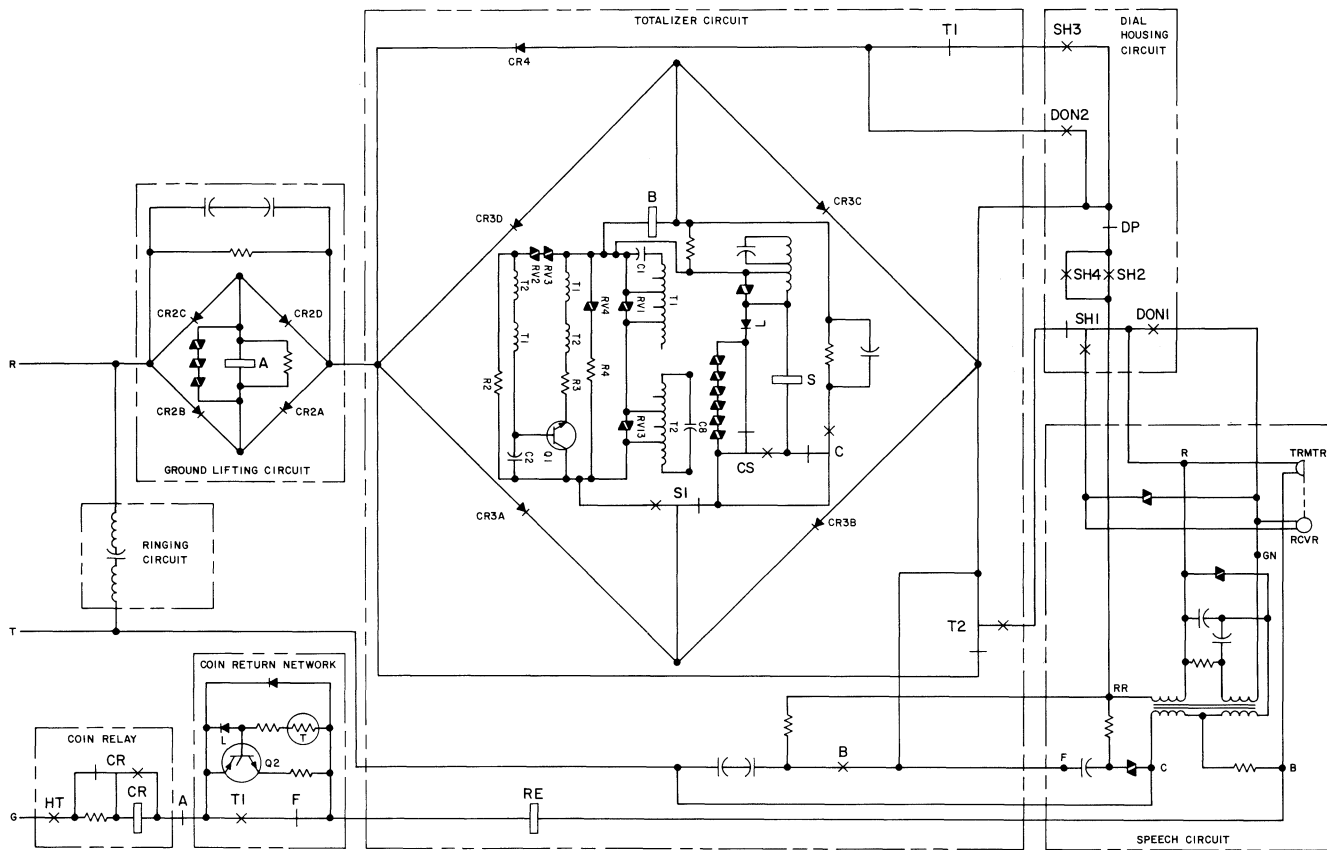

Fig. 9—1C1/2C1 Coin Telephone Set—Schematic (DTF Mode)
#### G. Other Component Circuits (Fig. 9 through 12)
#### 2.21 Ground Lifting Circuit (Used in DTF only) (Fig. 9 and 10).
#### 2.22 Coin Return Network (Used in DTF only) (Fig. 9 and 10).
**DIAL-TONE-FIRST SERVICE (Fig. 9 and 10)**